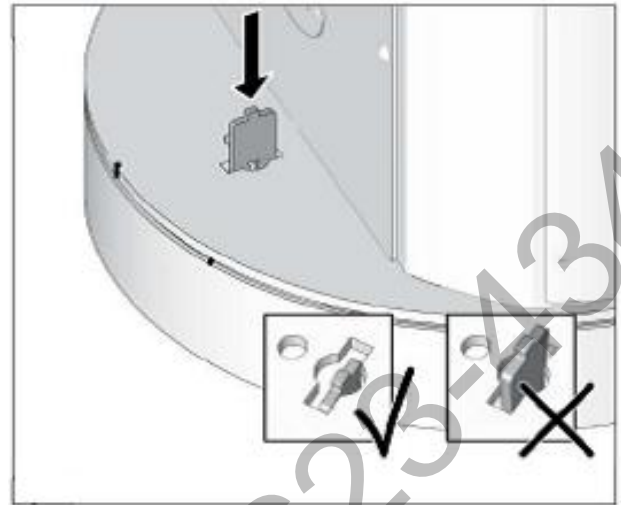

Figure 6: Insert Second Rotation Locking Stopper
5. Rotate the stove back to the zero position. Rotate the stove in the opposite direction as Step 4 slightly. Slide the second Locking Stopper down into place (see fig. 6).